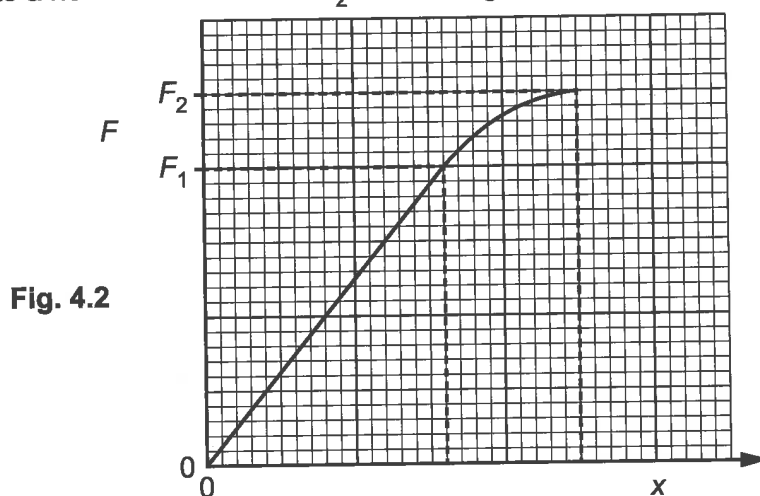

Fig. 4.2
- (iii) Another student repeats the original experiment in (b)(i), increasing the force beyond F_1 to a new maximum force F_2 . The new graph obtained is shown in Fig. 4.2.
1. On Fig. 4.2, shade an area that represents the work done to extend the wire when the force is increased from F_1 to F_2 . [1]